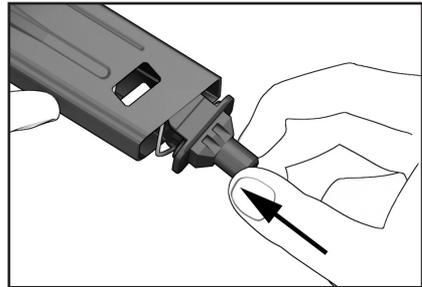

Figure 34
4. Push the locking plate into the magazine housing against the pressure of the magazine spring and hold it there. (Figure 34)